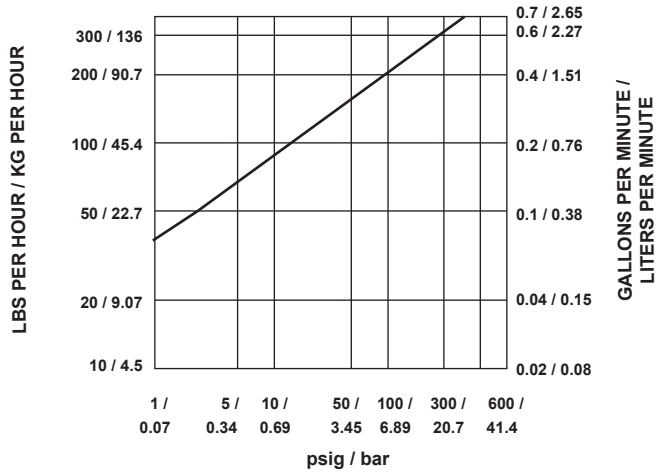

Figure 2. Drain Air Discharge Capacity
<p>Available Configuration Drain Air: Forged body with Stainless steel internal mechanism and nylon muffler</p> <p>Body Size NPS 3/8 and 1/2 / DN 10 and 15</p> <p>End Connection Style NPT</p> <p>Maximum Operating Pressure(1) 600 psig / 41.4 bar</p> <p>Maximum Operating Temperature(1) 200°F / 104°C</p> <p>Maximum Allowable Pressure(1) 600 psig / 41.4 bar</p> <p>Maximum Allowable Temperature(1) 800°F / 426°C</p>	<p>Capacity Information See Figures 2 and 3</p> <p>Materials of Construction Body and Cover: Forged Steel Cartridge: 416 Stainless Steel with hardened disc and seat Bolts: High temperature alloy Cover Gasket: Stainless steel spiral-wound with graphite filler Integral Strainer: 304 Stainless Steel Muffler: Nylon Housing, Aluminum</p> <p>Applications Air Header Drainage (pocket risers, end of line) Air Station or Location where petcock is used for blowdown, collecting wells and separators.</p> <p>Approximate Weight 2.3 lbs / 1.04 kg</p>